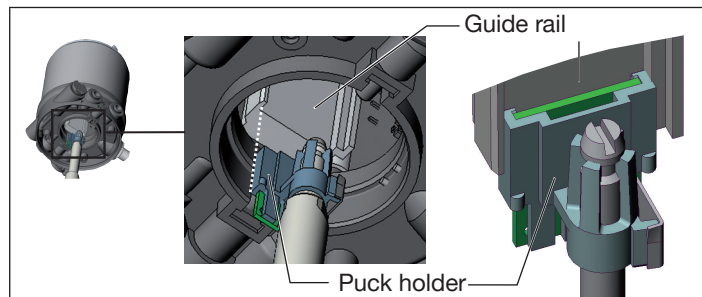

Fig. 5: Aligning the puck holder
2. the supports of the control unit can be inserted into the pilot air ports of the actuator (see “Fig. 5”).